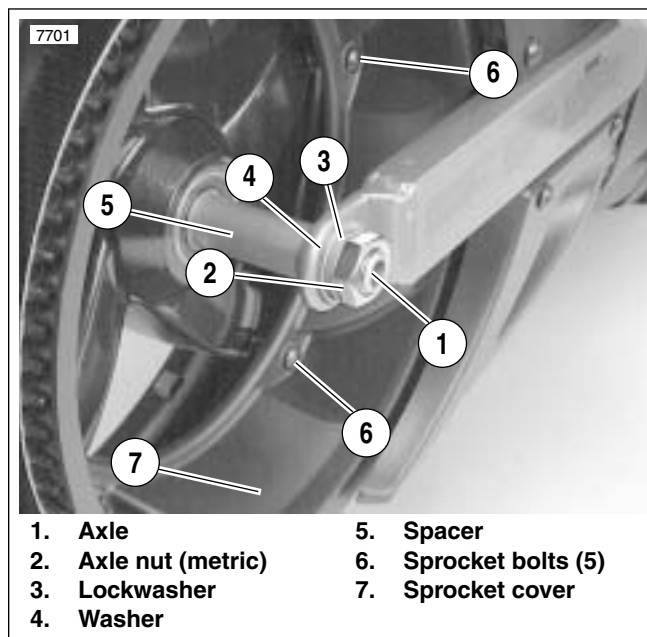

Figure 2. Rear Axle, Right Side
11. See Figure 2. Remove five sprocket bolts, sprocket cover and hardened washers from rear wheel. Destroy and discard removed parts.
- See Figure 2. Hold right side spacer in place.